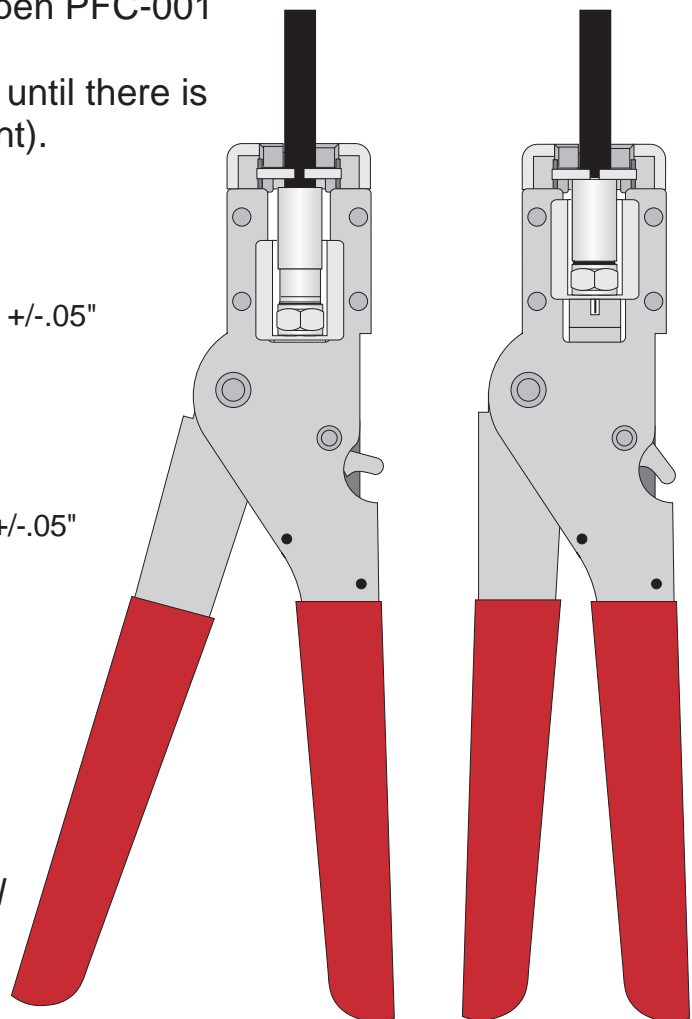

figure 2
Connector bonding (figure 2):
2. Place connector and cable into the open PFC-001 crimp tool as in figure 2 left.
3. Squeeze crimp tool handles together until there is no more travel available. (figure 2 right).